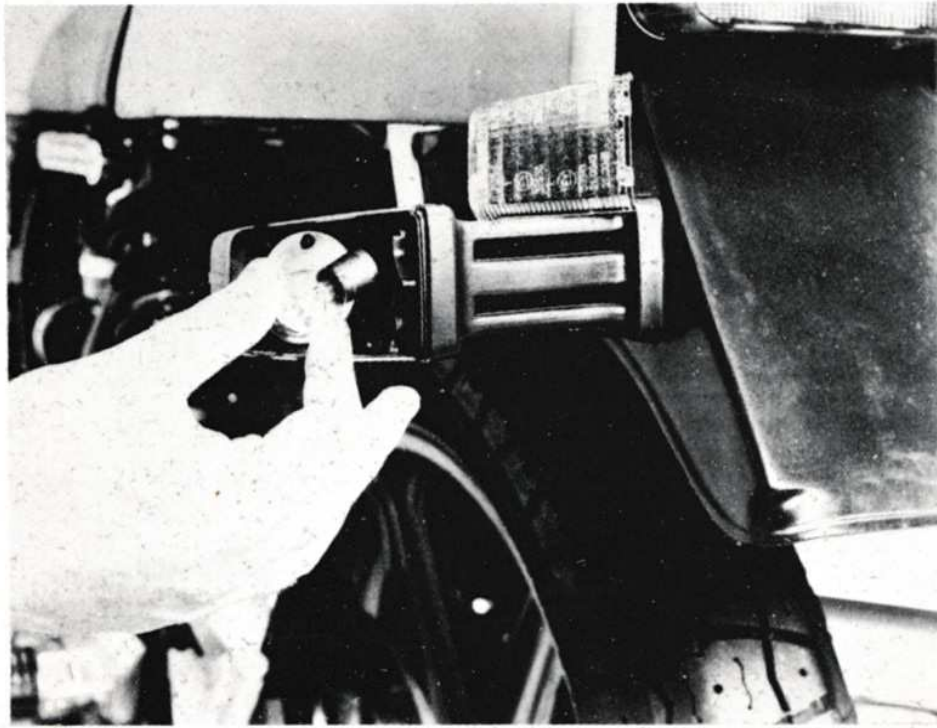

Fig. 35
**Turn Signal Lamp Replacement. Fig. 35**